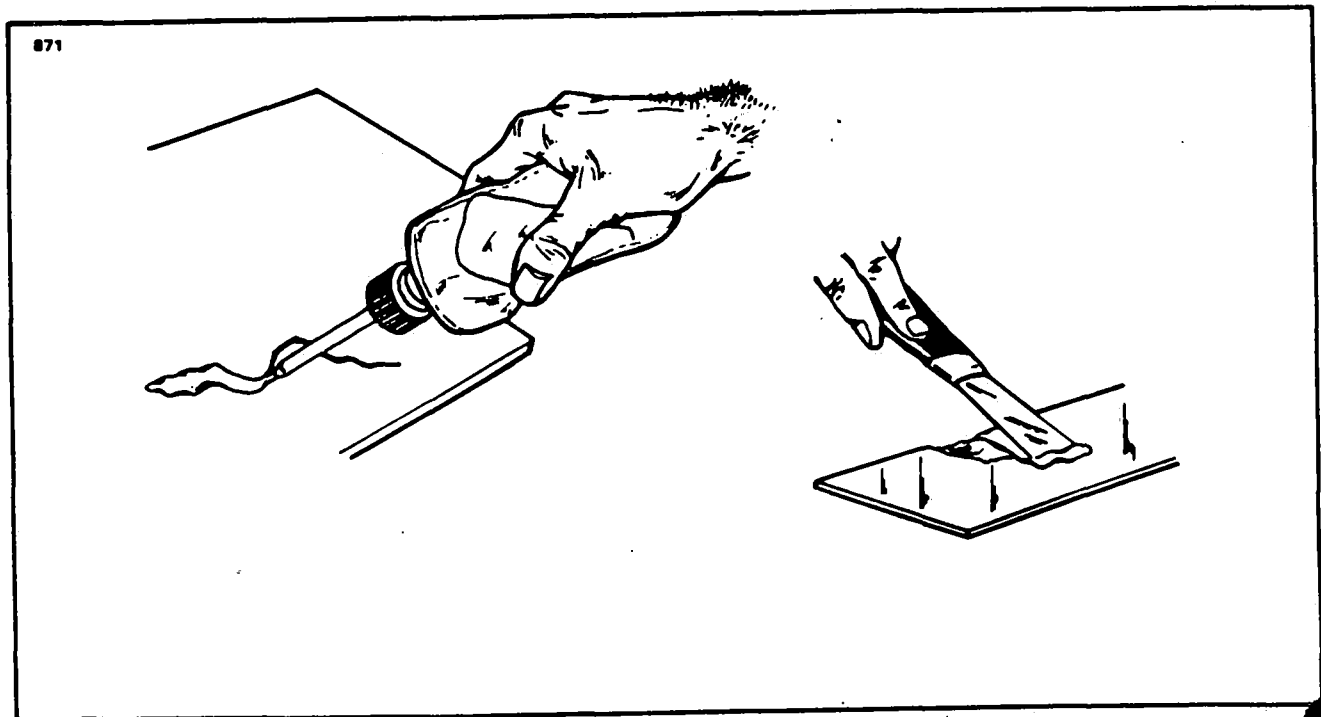

Figure 4-15. Deep Scratches, Shallow Nicks and Small Holes
c. Deep Scratches, Shallow Nicks and Small Holes: (Less than 1 inch in diameter.) (Refer to Figure 4-15.)